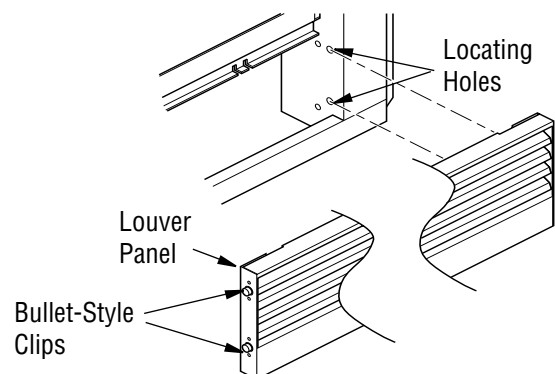
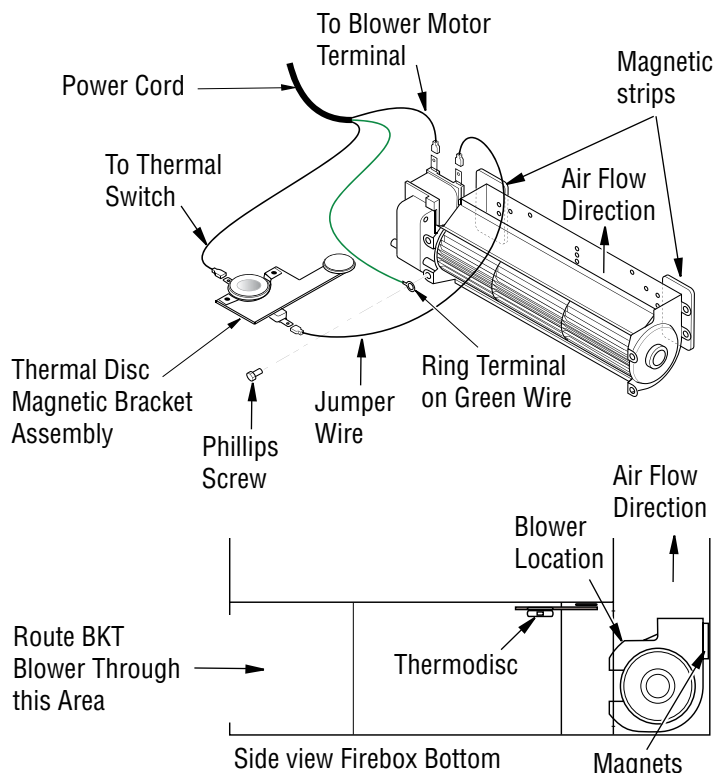

Figure 6: Removing Louver Panel with Bullet-Style Clips (Direct-Vent Models)
Figure 8: Blower Model BKT
Bullet-Style Clip: Remove louver with bullet-style clips by using a flat blade screwdriver and snapping louver forward. Use caution not to scratch any surfaces. These panels can also be removed by inserting fingers between slots on louver and gently pulling out. **DO NOT FORCE** (see Figure 6). To reinstall, align bullet-style clips with locating holes on inside of firebox and push gently.
1. Attach green ground wire from power cord to blower housing using screw provided (see Figure 8) Tighten screws securely with a Phillips screwdriver.
3. Place the blower against the lower rear wall of the firebox outer wrapper with the exhaust port directed upward. Attach Thermal disc magnetic bracket to the bottom of the firebox sub-floor. The thermodisc must be oriented near the fireplace bottom as shown in Figure 6, in order to sense temperature and properly operate. The blower will be held in position against the back wall by the magnets incorporated onto the blower housing (see Figure 8).